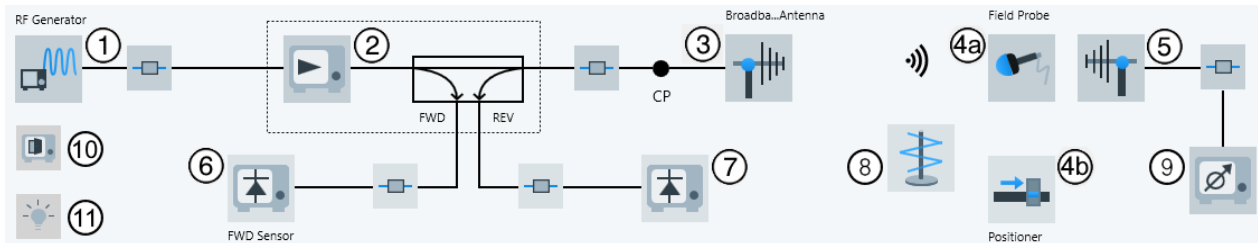

Figure 4-157: EMS hardware setup diagram (radiated) for a Reverberation Chamber in Calibration View
- The "Calibration View" (see Figure 4-157)